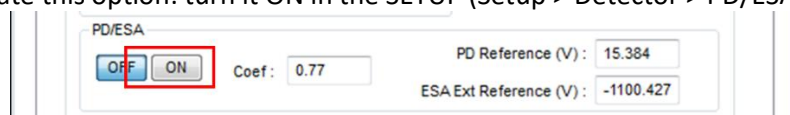

Figure 415: Pd/ESA option in SETUP > Detector
- Then, activate this option: turn it ON in the SETUP (Setup > Detector > PD/ESA, Figure 415)